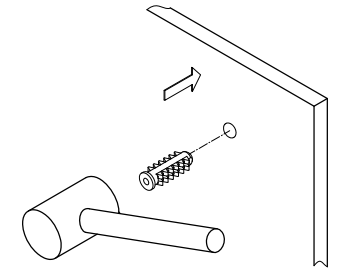

Fig. 2
- Step 3. Insert anchors into the holes until flush with wall (fig. 2).